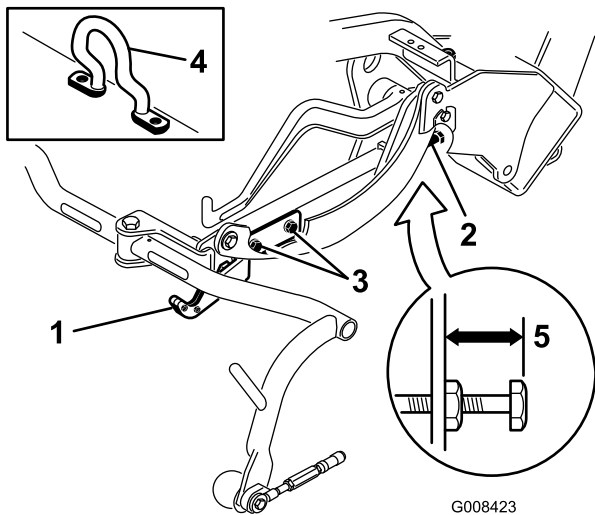
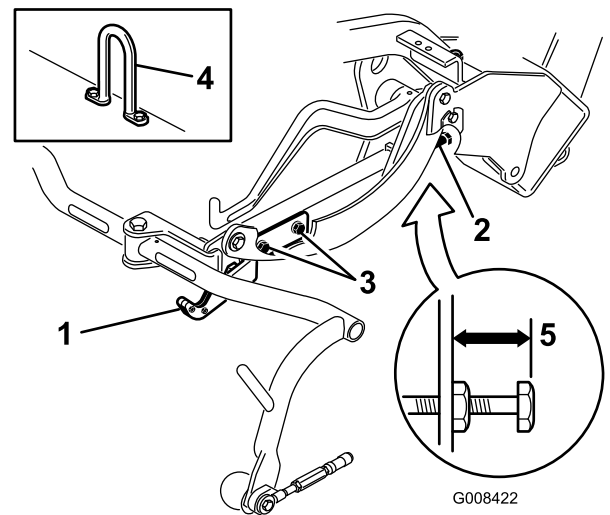
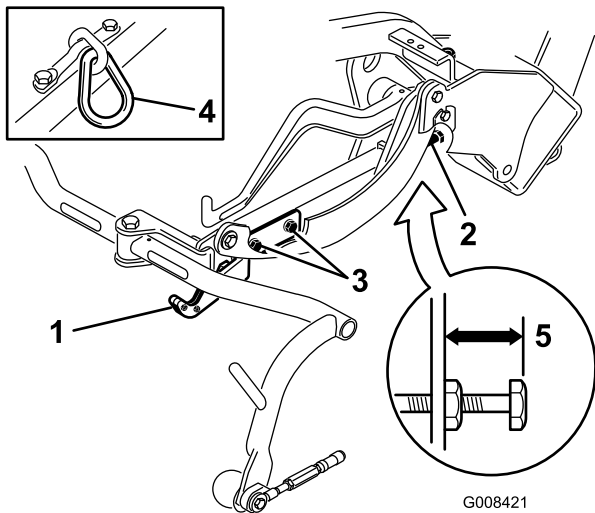

Figure 13
Figure 15
Figure 14
Check the transport height (Figure 14 and Figure 15) and adjust it if required.
2. On cutting units equipped with a offset lift hook (Figure 13 inset), verify that the distance from the top of the carrier frame adjusting screw to the back of the carrier frame is 25 mm (1 inch). If the distance is not 25 mm (1 inch), proceed to step 4.
- On cutting units equipped with a chain link or a straight lift hook (Figure 14 and Figure 15 insets), verify that the distance from the top of the carrier frame adjusting screw to the back of the carrier frame is 22 mm (7/8 inch). If the distance is not 22 mm (7/8 inch), proceed to step 4. If the cutting unit is equipped with an offset lift link (Figure 13), proceed to the next step.
- Loosen the transport plate mounting screws (Figure 14, Figure 15, and Figure 13).
- If the carrier frames are not at the same height, loosen the jam nut on the carrier frame adjusting screw (Figure 13, Figure 14, and Figure 15). Rotate the screw outward to raise and inward to lower. Tighten the jam nut after you obtain the proper height.